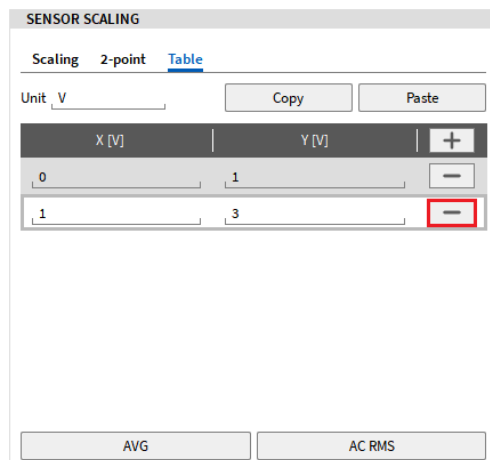

Figure 5-16: Table scaling – delete point
- A point can be removed by clicking on the – button (see Figure 5-16)